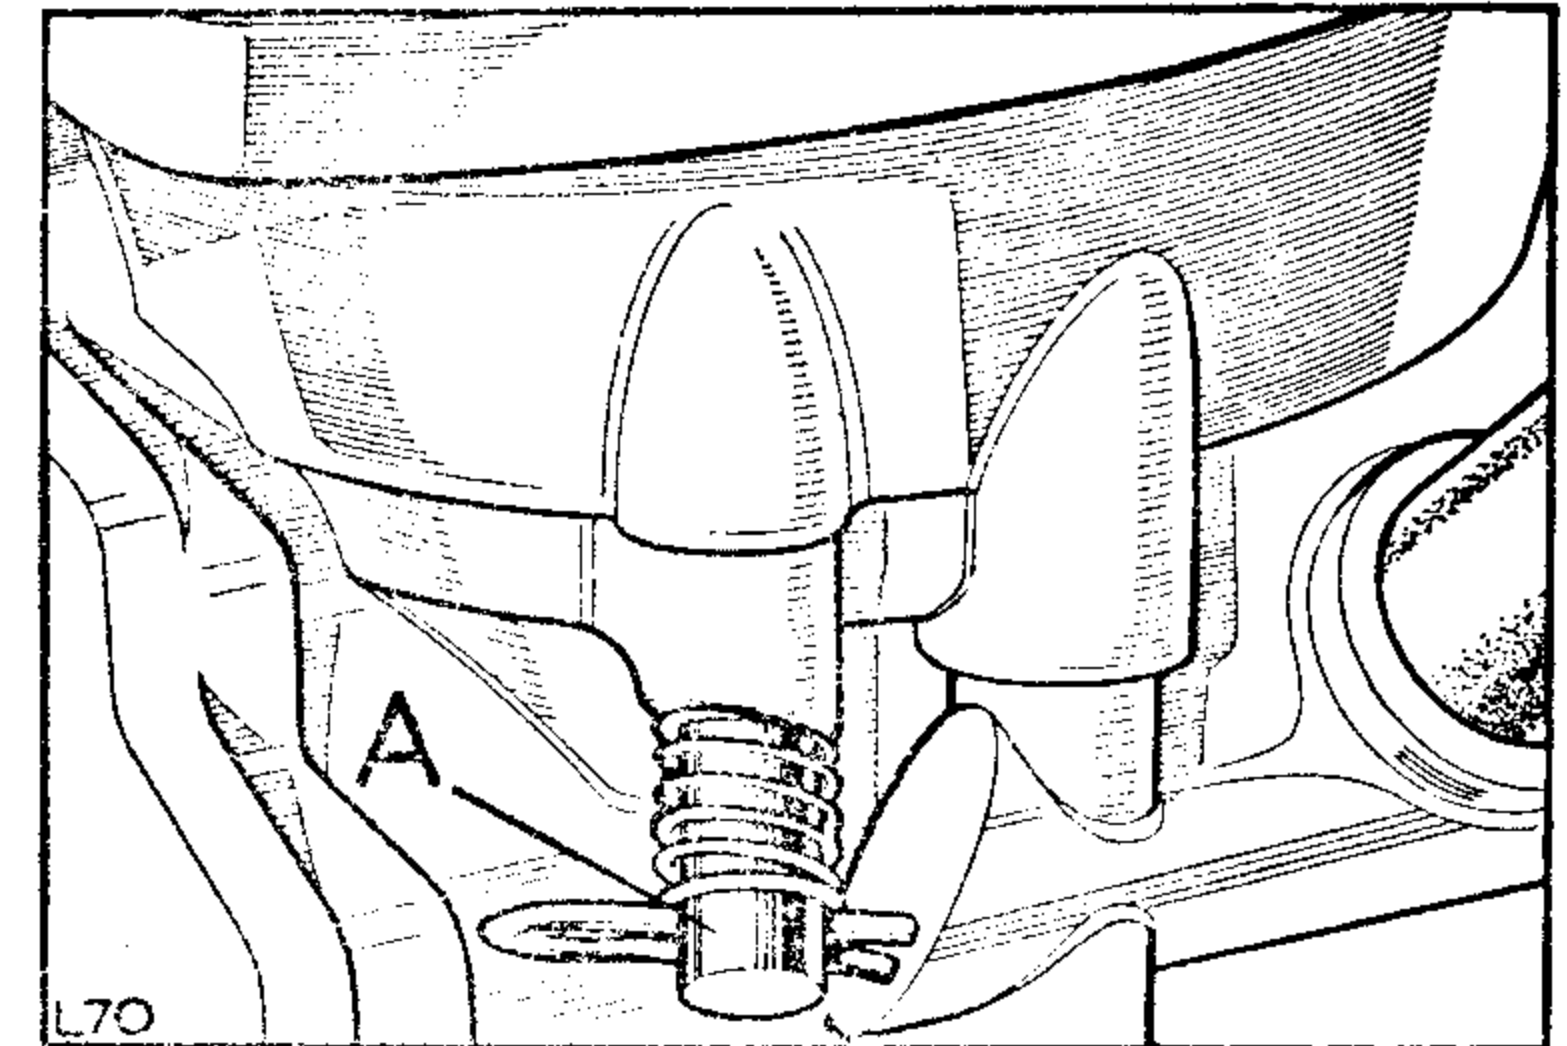

Fig. 10
2. Lift the carburettor piston approximately 1 mm (0.031 in.) by means of the lift pin (A) Fig. 10 situated on the right of the carburettor body. There is approximately 5 mm (0.187 in.) free movement of the lift pin before it contacts the piston.